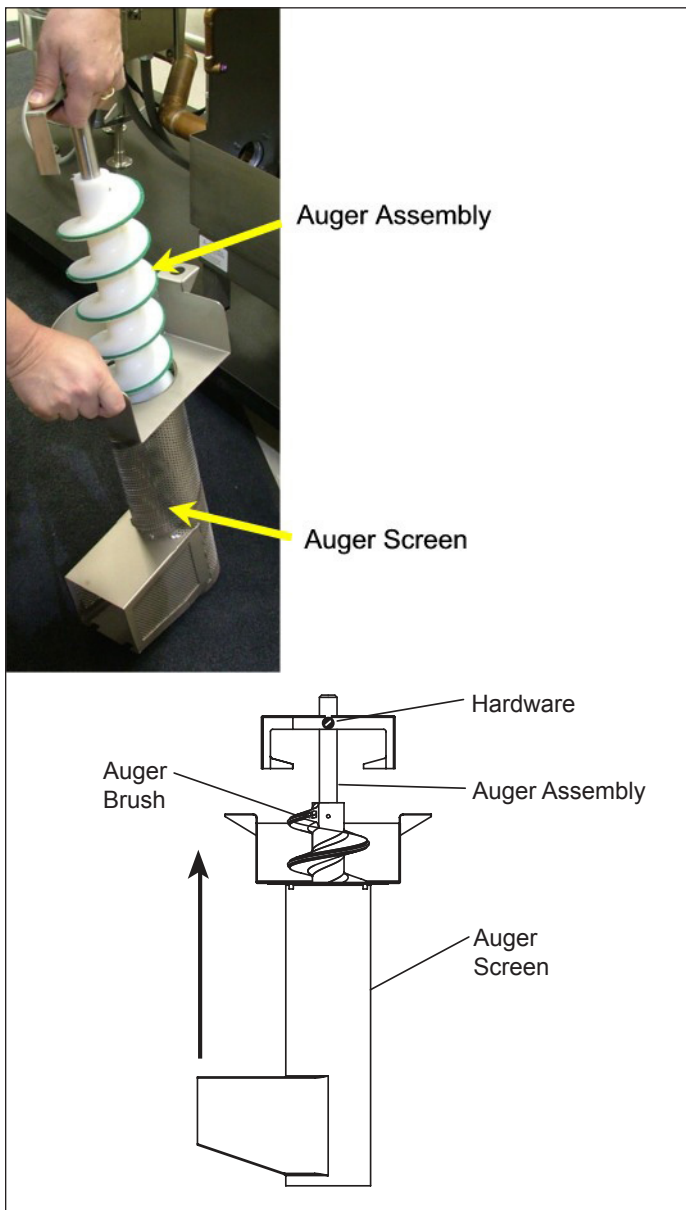

Figure 8. Auger Screen and Auger Assembly
5. Remove auger from screen (Figure 8).